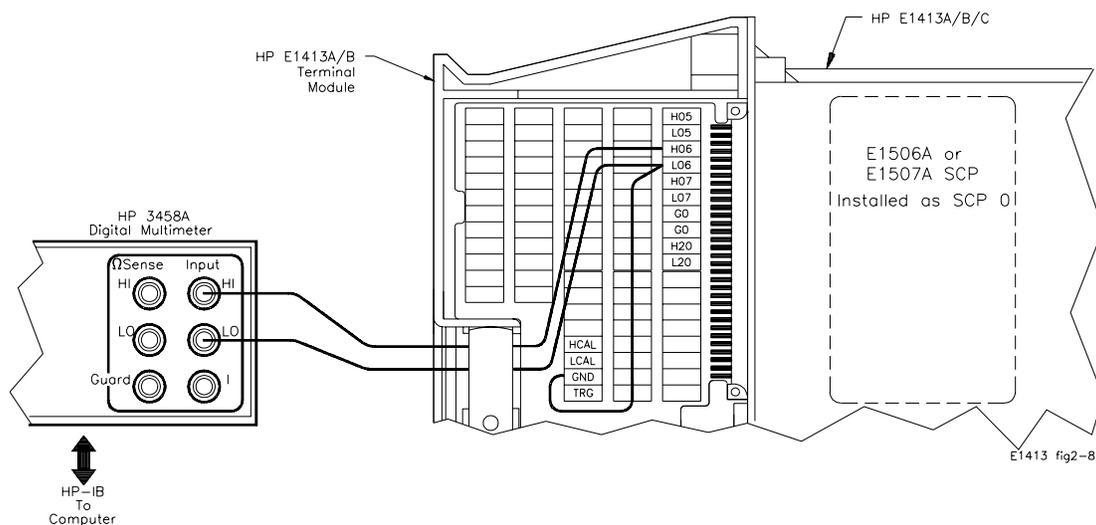

Figure 2-8. Typical Wiring Configuration
- [a] Connect wiring to terminal block and DMM (see Figure 2-8)